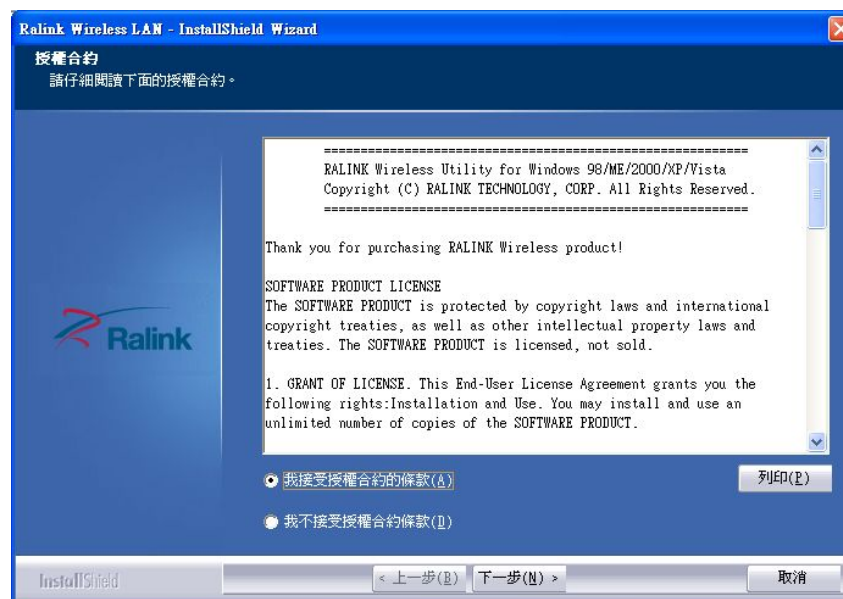

Figure 7-39: Wireless Driver License Agreement
Step 3: The license agreement in **Figure 7-39** appears.